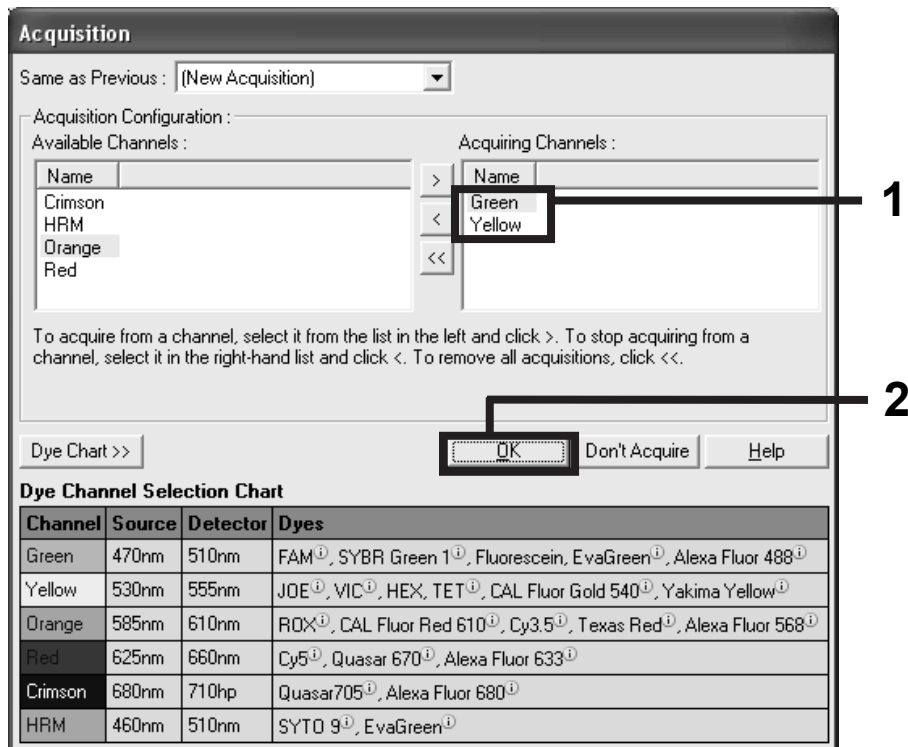

Figure 8. Acquiring at cycling step of 60°C.
Adjusting the fluorescence channels	Figures 8–12
11. Set Green and Yellow as acquiring channels by selecting the ">" button to transfer these from the "Available Channels" list. Click "OK" (Figure 8).